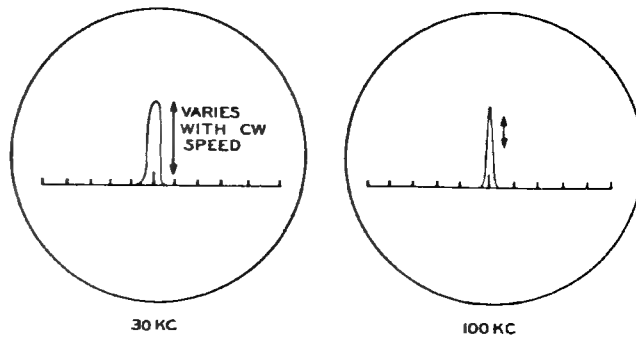

Figure 8
**Figure 8 - CW:** The pip of a CW signal will appear each time the transmitter is keyed. In the event of high speed CW, certain characters will not appear on the screen. This is due to the relatively slower sampling rate of the reactance modulator. In other words, a fast "dit" will appear in the receiver passband and disappear faster than all the signals in the passband are being sampled.